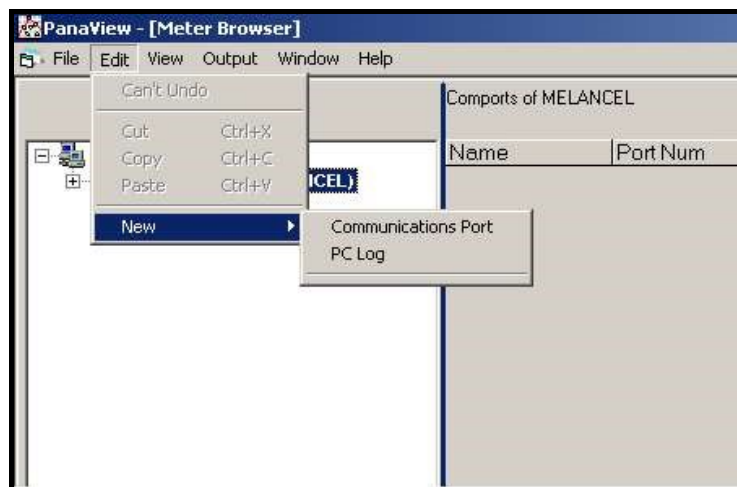

Figure C-1: Edit Menu
3. Click on the "New" menu option to select it, and a submenu opens with two choices on it (see Figure C-1 below).